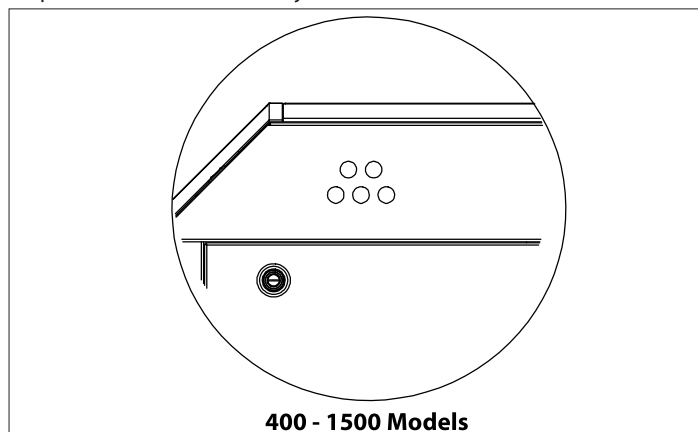

Figure 29 - Knockout Locations - 400 - 1500 Models Only
1. All low voltage cables should enter the electrical junction box through the provided knock out holes as shown in Figure 29.